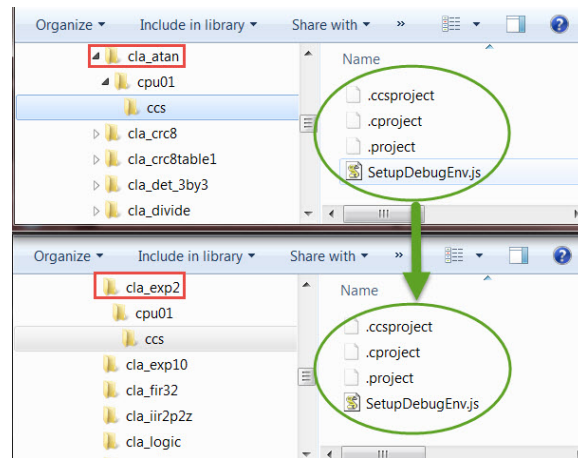

Figure 4.4: Creating a new project from existing examples
- Rename all files **atan\*.\*** to **exp2\*.\***. (Notice the naming convention. All files have the test folder name as a prefix, see Fig. 4.4 below)